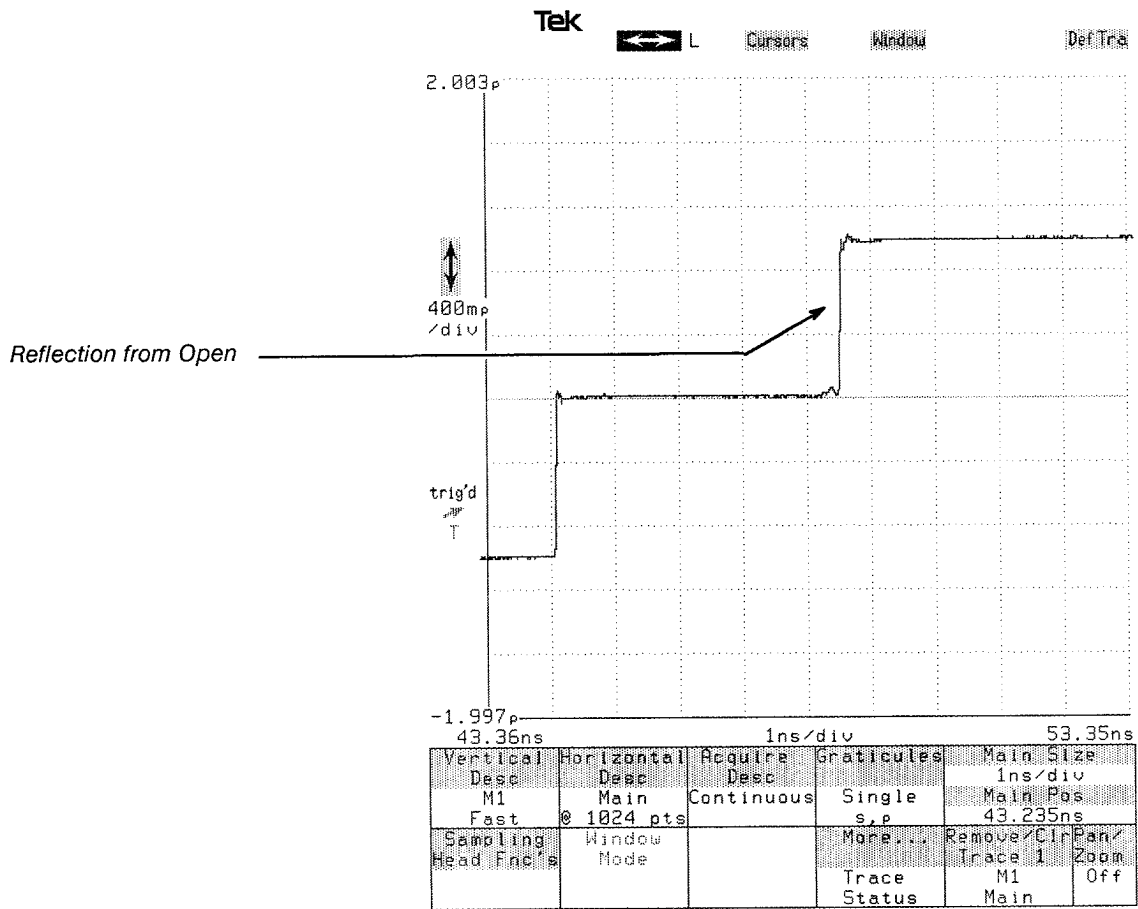

Figure 14 – Foot Switch In Normal Position (not pressed)
Step 3: Locate the rising edge reflection from the open circuit at the end of the coaxial cable (see Fig. 14).